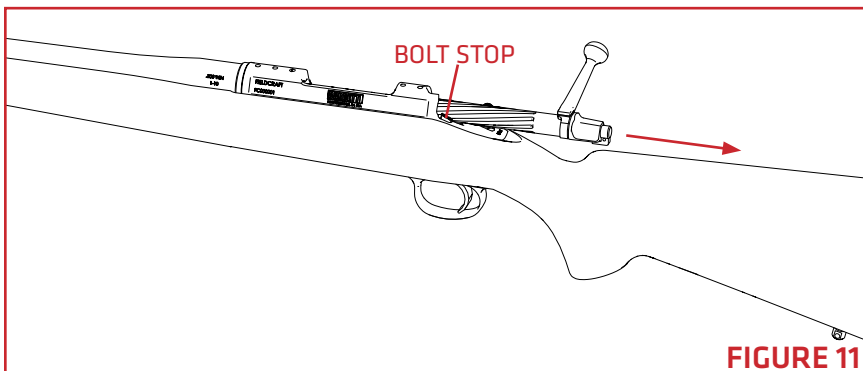

FIGURE 11
2. When the bolt is fully rearward, depress the bolt stop. The bolt can now be removed through the rear of the receiver (**FIGURE 11**).